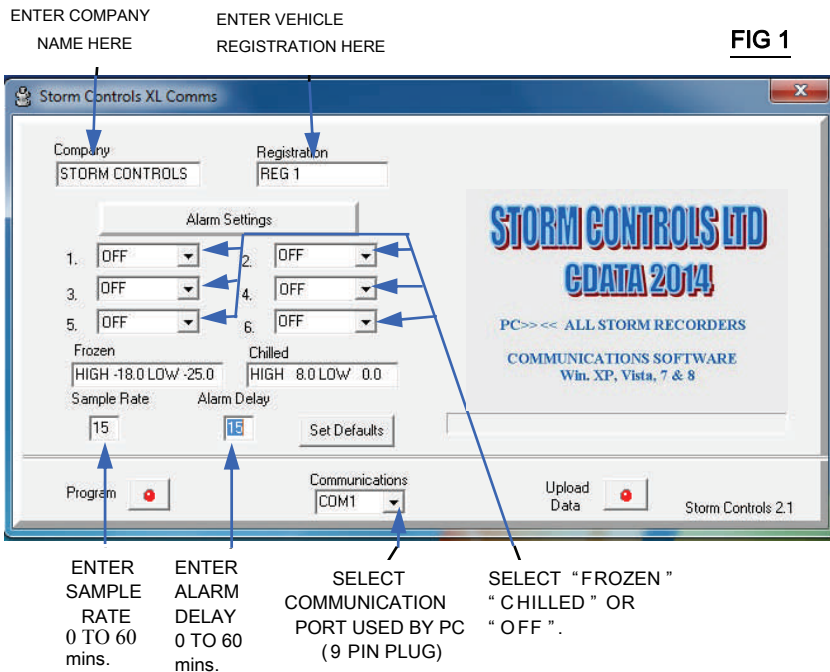

FIG 1
Open the CDATAPC2014 file either by Double clicking the file in your created directory or using the new ICON. This action will open up the communication panel as shown on (Fig 1 on page 4) and allow you to communicate with the recorder.
Setting Communication Port See Fig 1.
Storm 's communication software will only operate if the COM port 1-4 you are connected to is set on the Cdata 2014 Communications Panel Fig 1.
See Fig 1 page 4
1.3 Setting Sample Rate See Fig1
1.4 Setting Alarm Delay See Fig1